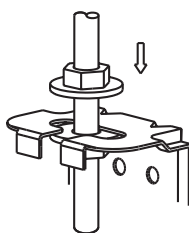

Fig.5-9
- Locate the air conditioner firmly by wrenching the nuts after having adjusted the body's position well.(refer to fig.5-9)